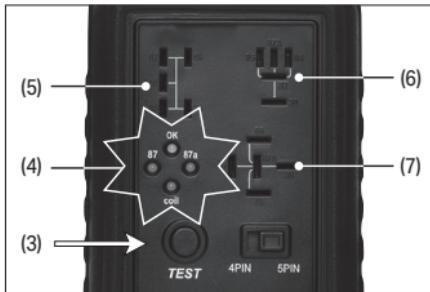

Fig. 3
4. Plug the relay to test into the relevant relay socket (5), (6), (7) and press and hold the **TEST** button (3) to start the test. (Fig.3)
5. During testing the indicators (4) will keep flashing until the test is complete. Do not release the button until the indicators show the test result. (Fig.3)